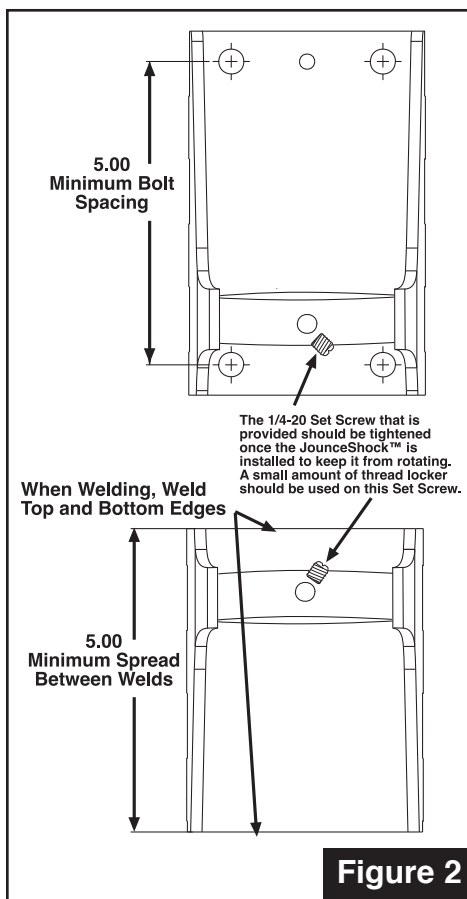

Figure 2
4. Cut away excess Frame Side Mount material as required for placement. Mount may be cut down in a number of different ways to facilitate different mounting positions. Ensure that you leave enough material to provide a 5" spread between welds or bolts (in direction of load) as shown in **FIGURE 2**.